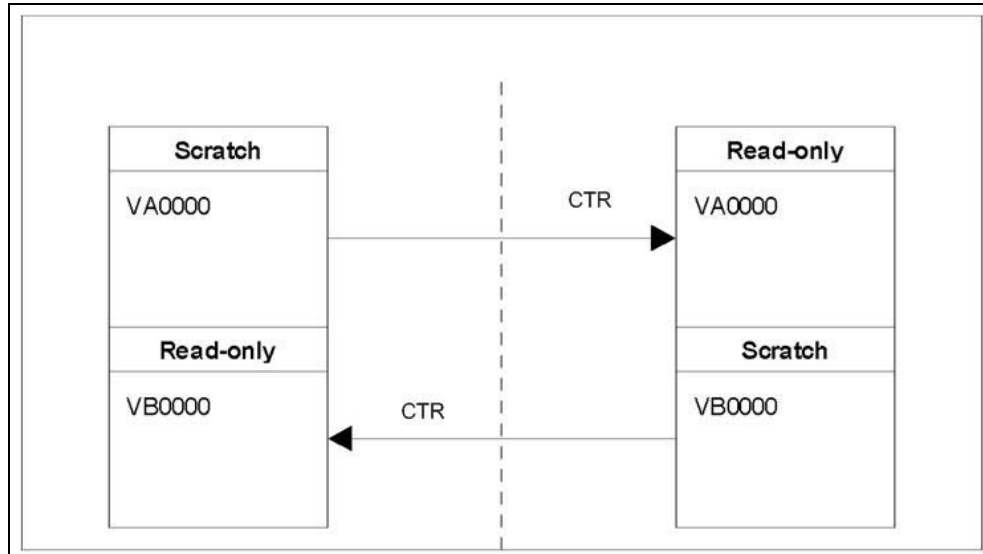

FIGURE 4-2 Intra-Site VTV Volume Relationships
- The VTV volume ranges for the two TapePlexes are per FIGURE 4-2. **Note that** each TapePlex has its own set of writable volumes and that these are mirrored on the other TapePlex by read-only versions.